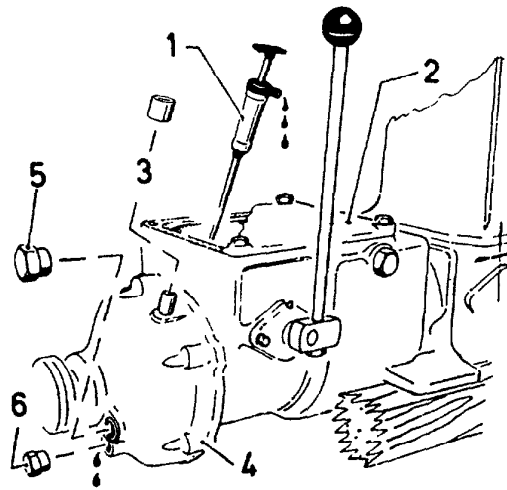

Fig 26
1. Unscrew level plug (5) in after face of reduction gear housing (4).
2. Top up if necessary through filler tube (fig 26, item 3) until oil runs out of level plug aperture.
3. Replace level plug (5) and cap (3).